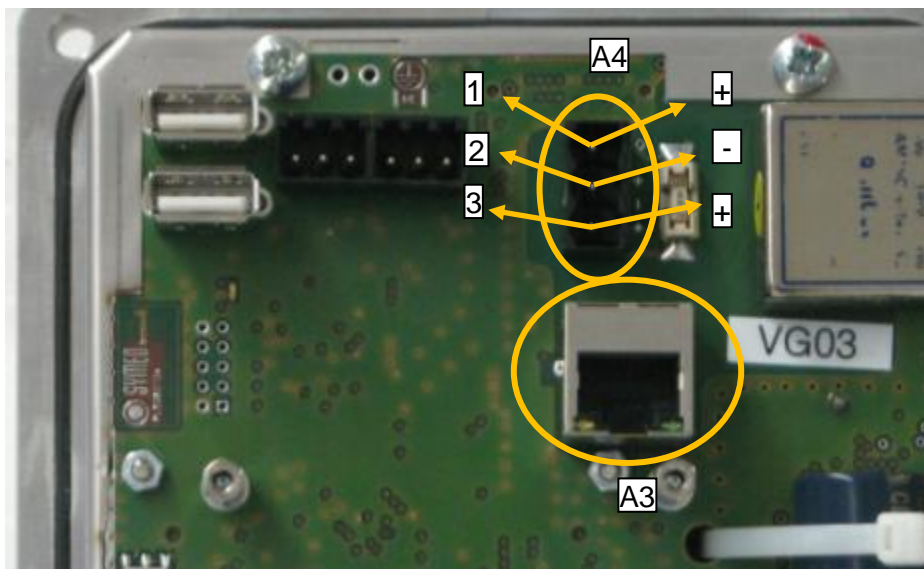

Figure 6: Electrical connections
Figure 6 depicts the pin assignment of (A4): Positive voltage can be connected either at pin 1 or 3, the negative or ground voltage is connected to pin 2.
For standard operation of LPR-1DHP stations with TCP/IP interface the rotary switch (S2) has to be set to position 3 (see Figure 6).
- ⇒ Insert the power supply cable in the cable feedthrough (B3) and connect it to the power supply terminal (A4) on the rear element (A); siehe Figure 6.
- ⇒ Reinsert the Ethernet connector (B5) of the rear element (B) into the connector (A3) of front element (A). Mount the front element (A) on the rear element (B). It might be necessary to tighten the inserted power cable.
- ⇒ Mount the mounting bracket (C) on a pipe installed at a suitable place. Do not tighten the screws of the pipe-clamp yet, the system must be aligned first.
- ⇒ Mount the LPR-1DHP station in the mounting bracket (C). When tightening the screws in the mounting slot (C1) make sure that you can still align the system unit.
- Avoid entry of foreign objects or liquids into the system unit, especially on the PCB stack of front element (A) or within rear element (B).